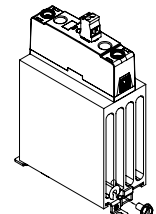

fig. 3 DR45 model with protective earth screw
- Protective earth (PE) screw type recommended is 10-32 UNC standard, not provided with SSR. Through the use of a DIN rail ground (protective conductor) terminal block, the DIN rail itself can be used as the grounding bus bar. In this case, the zinc plated steel material used for the DIN rail clip of DR45 models, permits a secure path to ground and avoid the need of a further PE connection (see fig.3).